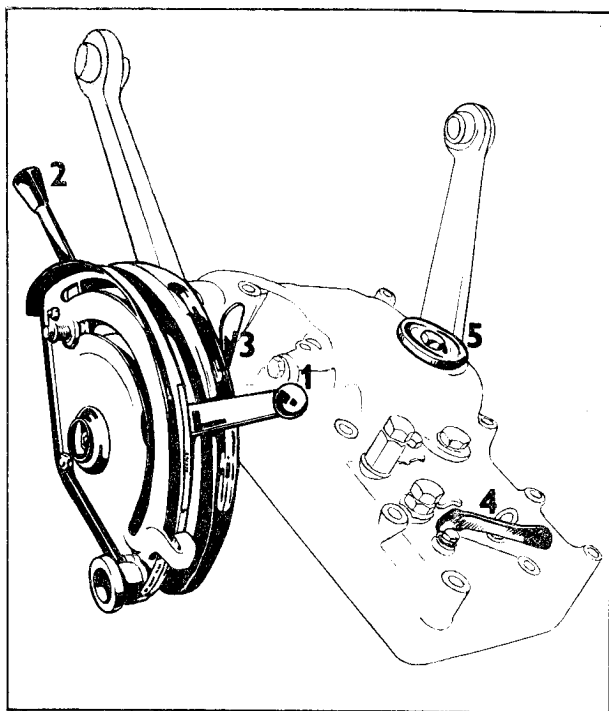

Fig. 6
1. Hydraulic power lift remote circuit control lever (Fig. 6/1).
2. Hydraulic power lift inner circuit control lever (Fig. 6/2).
3. Hydraulic power lift selector lever (Fig. 6/3) can be dis-
4. Hydraulic power lift response lever (Fig. 6/4).
5. Oil cleaner magnetic plug of the hydraulic power lift (Fig. 6/5).